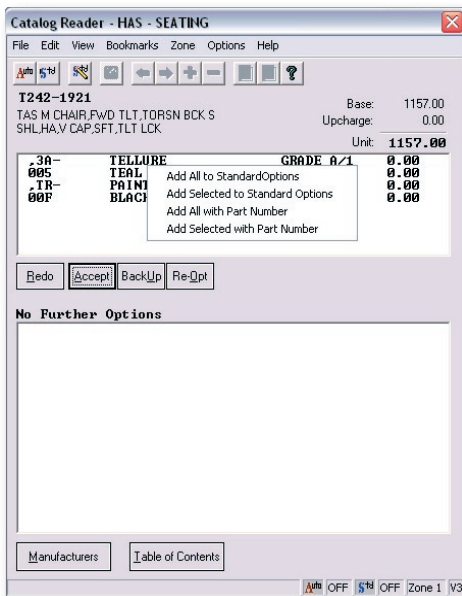

Figure 1
2. Choose "Add All to StandardOptions" to add this set of options to the less specific or choose "Add All with Part Number" to create a specific StandardOption. (See Figure 1)